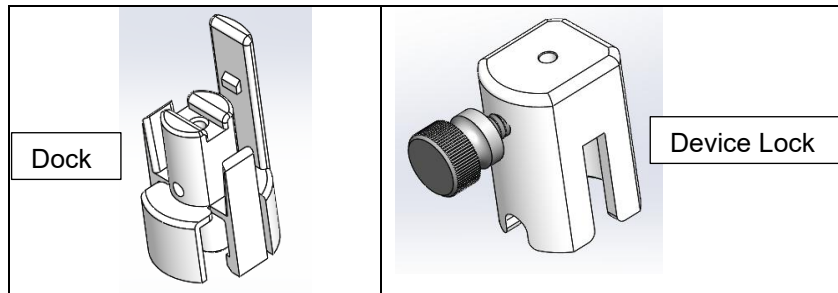

Figure 31: Dock (Left) and Device Lock (Right)
1. Remove the Dock (see Figure Left) and Device Lock (see Figure 31 Right) from the SMARTFrame Array package.